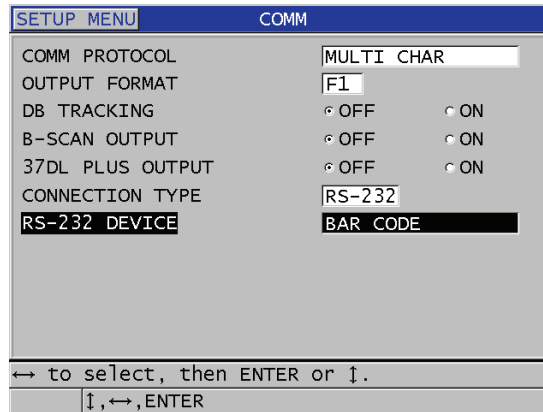

Figure 11-30 Selecting the bar code RS-232 device
3. In the **COMM** screen (see Figure 11-30 on page 200):